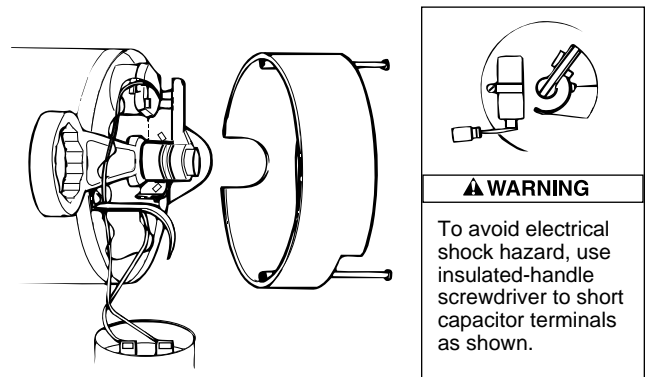

Figure 15 – Hold Shaft
2. If impeller must be replaced, loosen two machine screws and remove motor canopy (see Figure 15).
3. **WARNING** Capacitor voltage may be hazardous. To discharge capacitor, hold insulated handle screwdriver **BY THE HANDLE** and short capacitor terminals together (see Figure 15). Do not touch metal screwdriver blade or capacitor terminals. If in doubt, consult a qualified electrician.